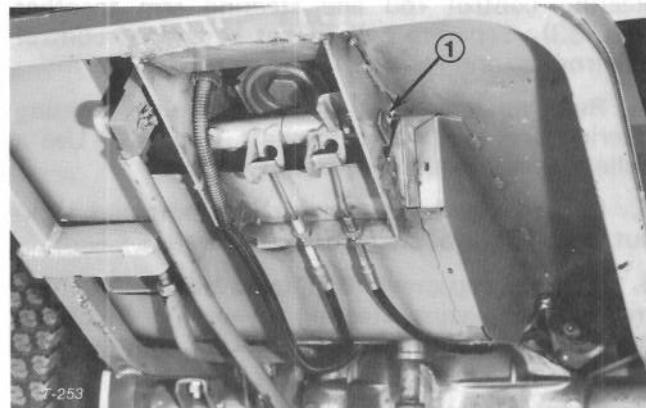

Figure 32
6. Wipe brake pivot pin with a rag to remove dirt and grease. Hold left brake pedal, which can be identified by an additional welded bracket, in position and install pivot pin through side plate and brake pivot. Hold right brake pedal in position and push the pin through the brake pivot and opposite side plate. Tab end of pin (Fig. 32) must engage bottom edge of side plate to prevent pivot pin from rotating and causing wear. Install locknut on end of pivot pin to hold all parts in place.